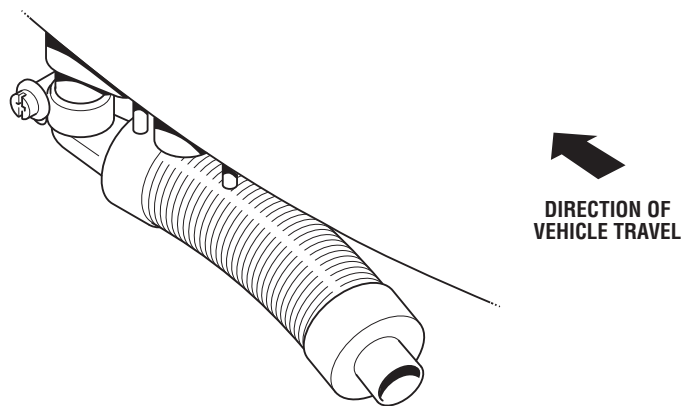

Figure 9. Air Intake Silencer.
2. Route the silencer in the opposite direction of the vehicle motion pointing down slightly (refer to figure 9).
4. Insert the air intake silencer to the free end of the heater hose and secure with a hose clamp ensuring the silencer points in the opposite direction of vehicle travel and pointing down slightly (refer to figure 9).